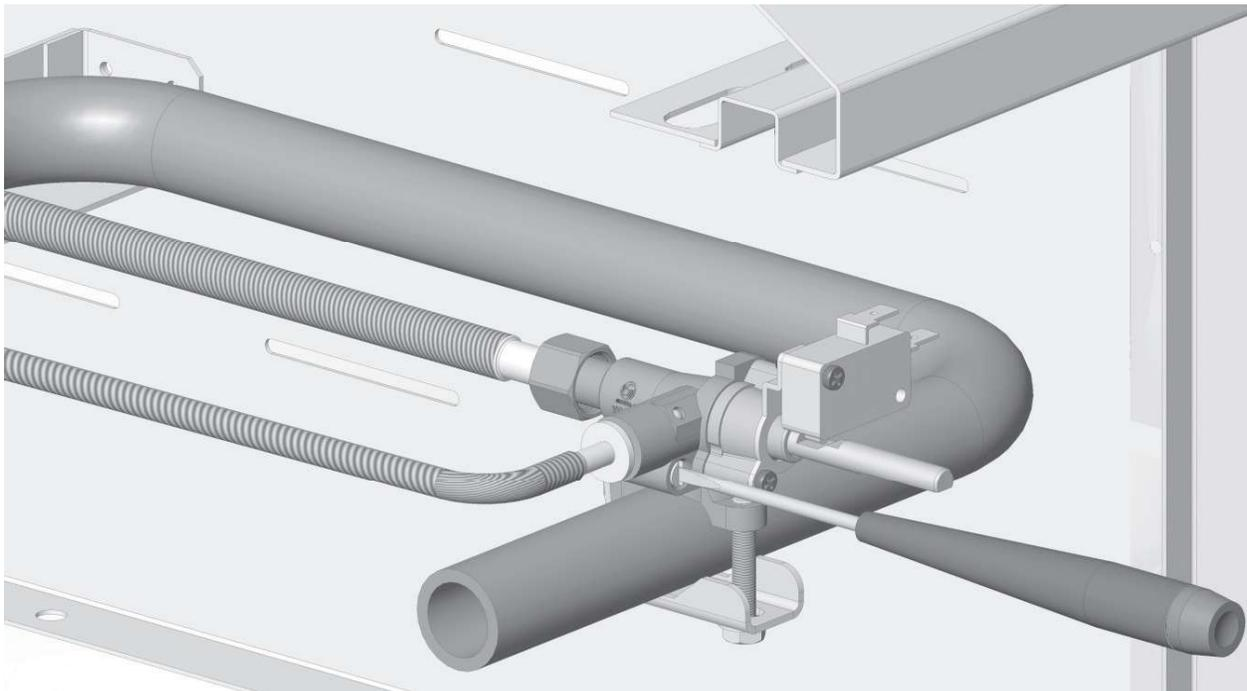

Figure 2
4. Insert a small, flat-blade screwdriver into the small screw to the left of the valve stem to begin the adjustment (see Fig. 2). The screw only has 2-3 complete revolutions of adjustment. After this, the screw may continue to turn, but is actually coming out of the valve and could result in a gas leak. **DO NOT** turn more than 3 revolutions!